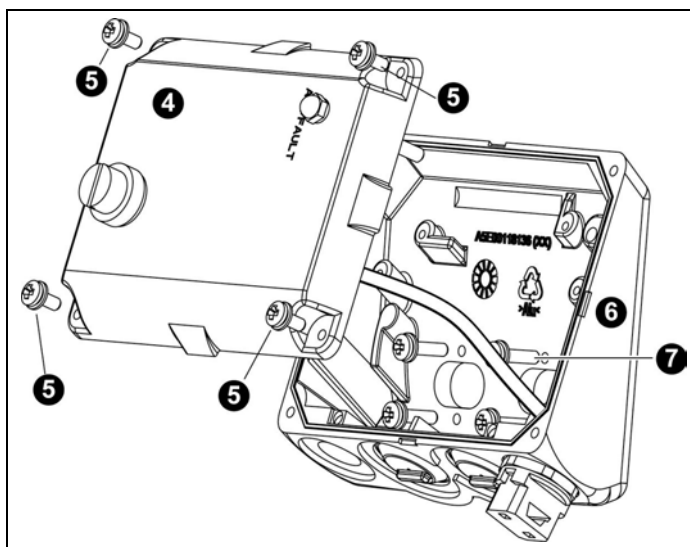
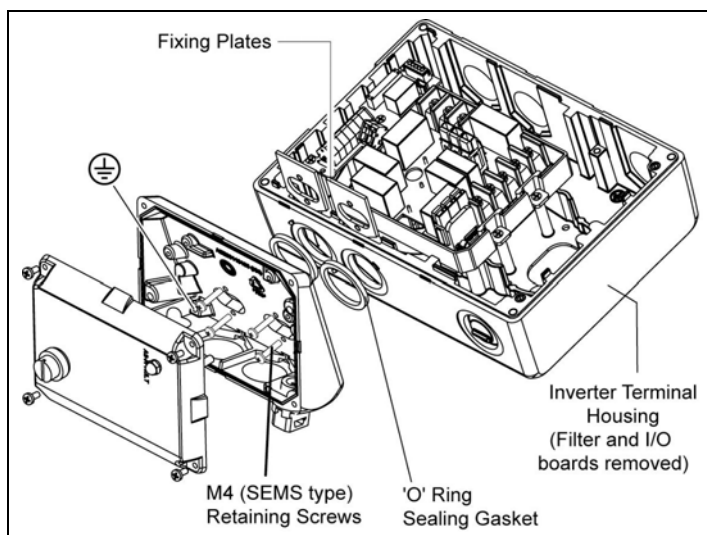
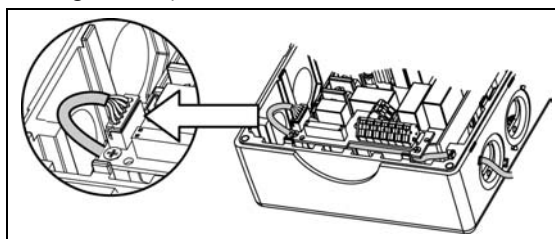

Figure 2-5 AS-i Module Layout
Figure 2-6 AS-i Module Fixing to Inverter
Figure 2-7 Fitting the Communications Cable
The AS-i Module **MUST** be mounted on the inverter on the opposite side to the Rating Label (see Figure 2-6).
1. Unscrew the four M4x10 cover retaining screws ⑤ (see Figure 2-5).
2. Carefully detach the module cover ④ from the base ⑥.
3. Insert the “O” ring sealing gaskets (see Figure 2-6). Gaskets should be placed in position adhesive-side to the inverter.
5. Align the Options case with the Fixing plates (See Figure 2-6).
6. Fasten the Options module base to the fixing plates using the M4x20 retaining screws ⑦ (see Figure 2-5 above).
7. Using the U-clamp and M4x10 screw, connect the earth lead (attached to the fixing plate) to the earth stud (shown as ⊕ in Figure 2-6 above) within the module housing.
8. Feed the supplied comms link cable between the AS-i Module (see Figure 2-5 page 13) and the corresponding comms socket on the replacement inverter I/O board, supplied with the module (see Figure 2-7).